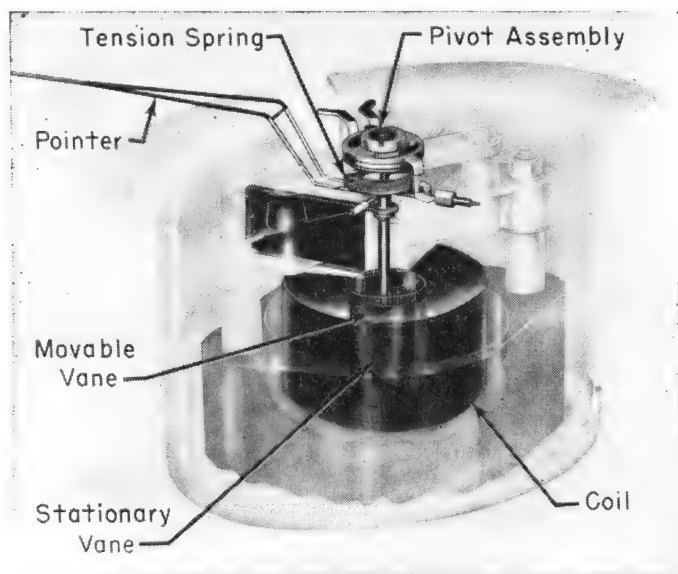

Fig. 15. Construction of a Movable Iron Type Ammeter
by some mechanical means. This is accomplished by means of an air damper box as shown in Figs. 15, 16 and 17.
**Movable Iron Type Ammeters.** Fig. 15 shows the construction of a movable iron type ammeter. The cover plate has been removed from the damper box to more clearly illustrate the damping mechanism. Fig. 16 shows the various parts used in the construction of the instrument. Thus in Fig. 16 (No. 3) is the coil or sole-
The relation of the fixed and movable pieces of iron is shown in Fig. 15. The fixed piece is secured to the extension in (No. 5) of Fig. 16. It is triangular in shape and is bent to be concentric with the movable piece. The uniformity of the scale depends on the shape of this fixed piece.
No such field exists in the moving iron type shown in Figs. 15, 16, and 17, but the current itself must develop the magnetism which brings about the reaction between the moving and the stationary members. The result is that a 300-volt alternating-current instrument requires approximately six times the power to produce a full-scale deflection of that required for the permanent magnet instruments.